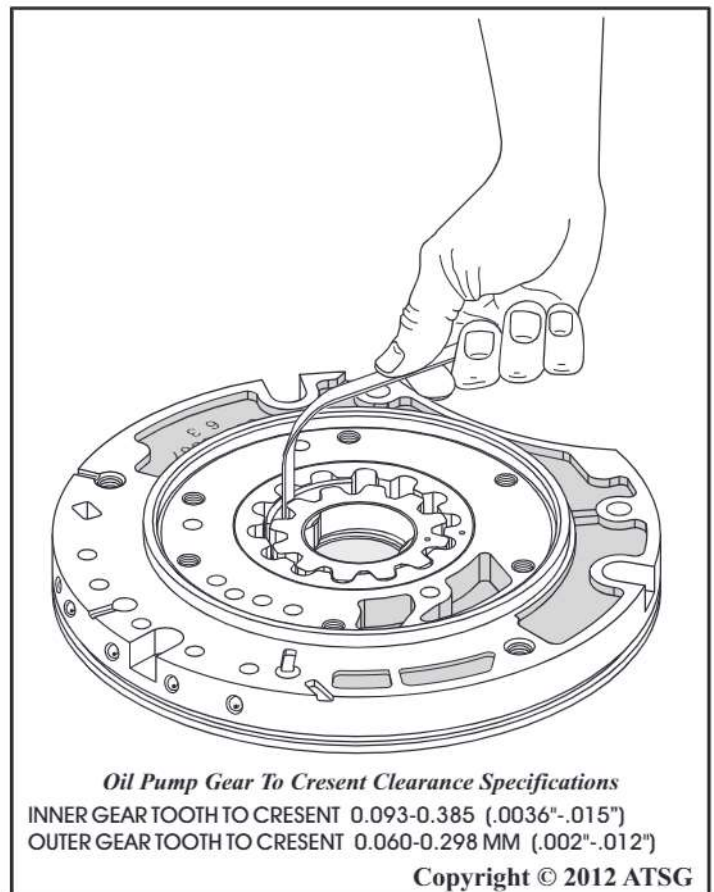

Figure 203
8. Check the pump gear to crescent clearance using a feeler gauge, as shown in Figure 203.
Note: Oil pump gear to crescent specifications are also shown in Figure 203.